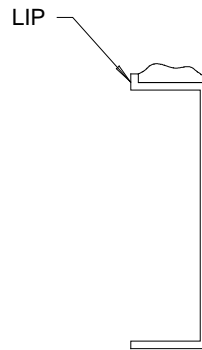

FIG. 1
3. Apply silicone sealant DC732 or pro-seal sealant to the gasket surface, follow the manufacturers label directions. On the exposed frame apply enough to fill a line from the gasket retaining lip to the edge. (See Fig. 1)